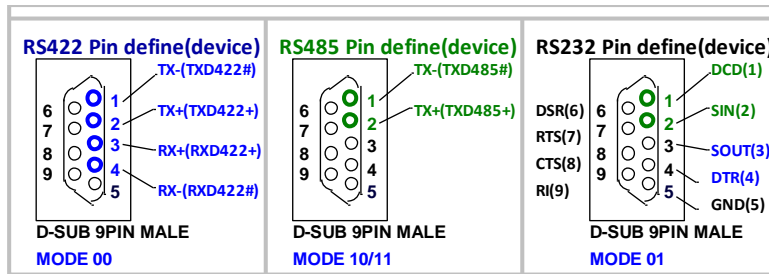

Figure 4-36: External Serial Port Pinout Locations
- CN Location:** See **Figure 4-36**